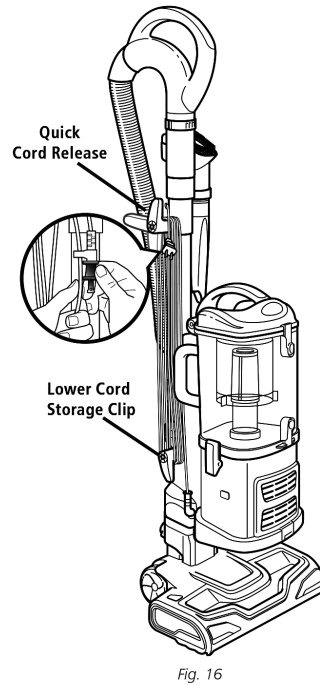

Fig. 16
- Rotate the upper quick cord release to its upright position and coil the power cord loosely around the two clips. Clip the plug onto the cord to secure. (Fig. 16)